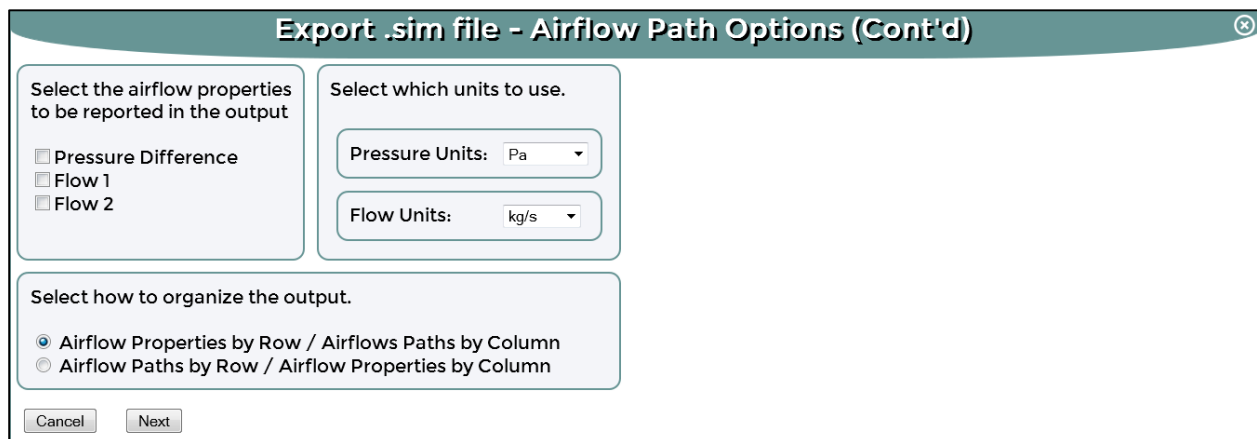

Figure 11. Output airflow results (airflow properties, units, and organization)
13. Select the options related to exporting airflow results (Figure 11):